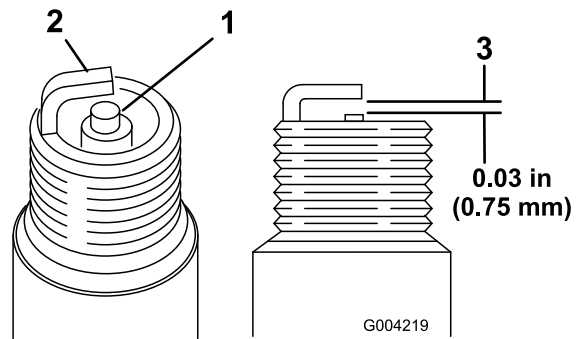

Figure 16
2. Check the gap between the center and side electrodes (Figure 16).
3. Bend the side electrode (Figure 16) if the gap is not correct.
1. Look at the center of both spark plugs (Figure 16). If you see light brown or gray on the insulator, the engine is operating properly. A black coating on the insulator usually means the air cleaner is dirty.